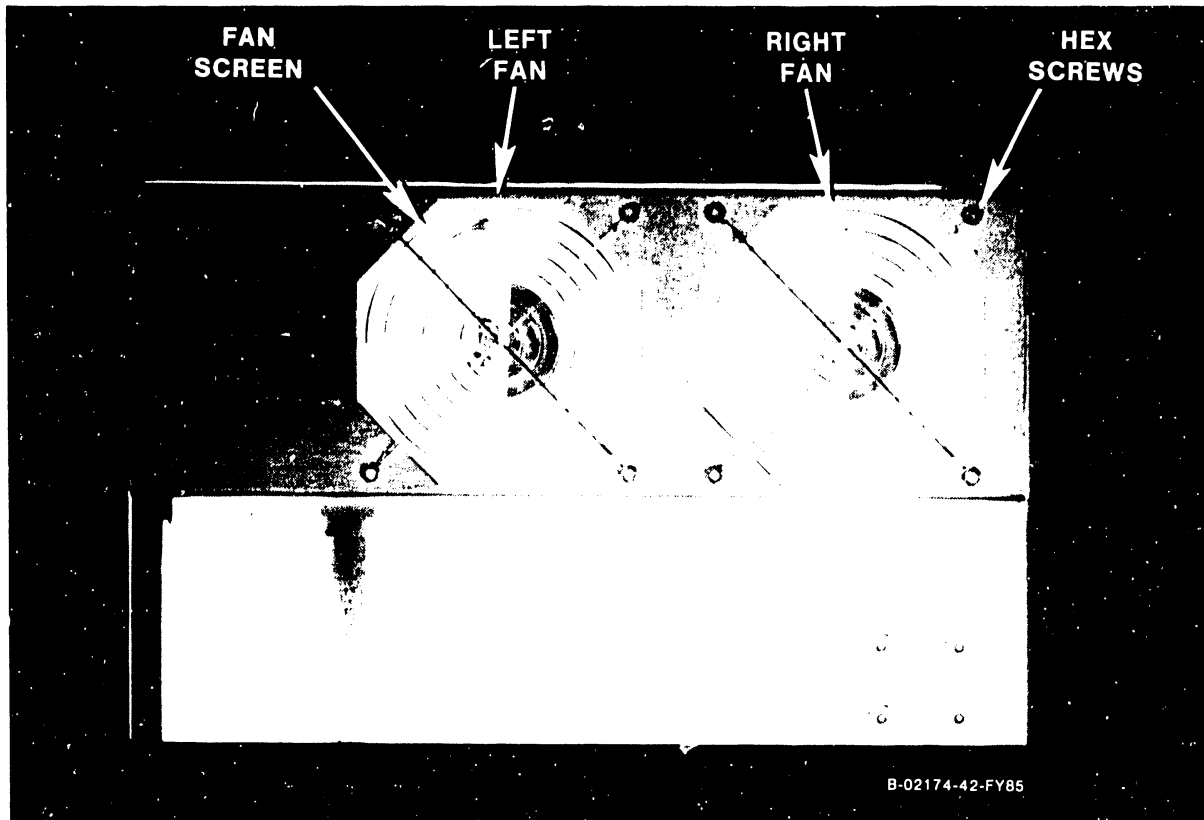

Figure 5-50. Fan Panel Assembly (Rear View)
- a. If the left fan, as seen from the rear, is to be replaced, remove only the four hex head screws securing the left fan screen and fan to the rear panel assembly. (Figure 5-50.)